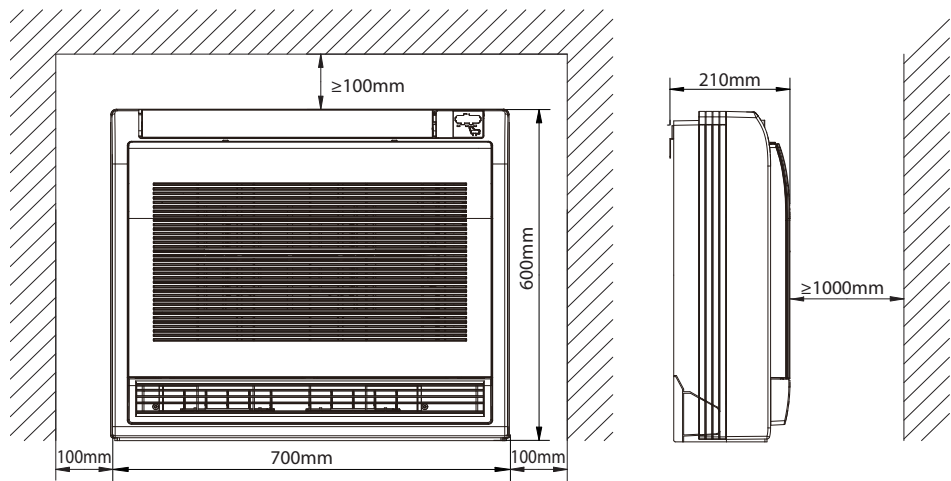

Fig. 8 — Clearances
- A location which provides appropriate clearances as outlined in Fig. 8.
1. The mounting hooks should be located horizontally and level on the wall. All minimum clearances shown in Fig. 8 should be maintained.